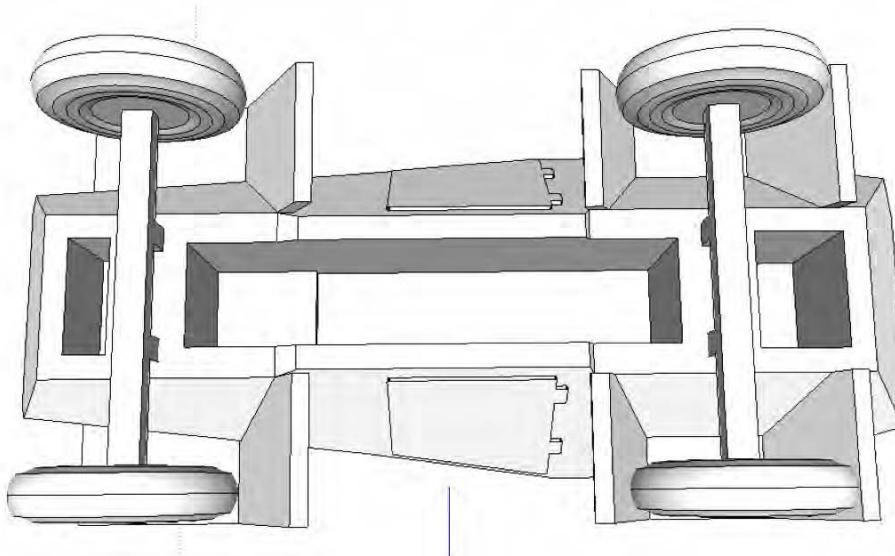

Figure 8–35. Extending the axle width to 2mm and hollowing out the model
The model now measures 1.7 inches (H) \times 3.0 inches (L) \times 1.5 inches (W). Try to see whether you can upload the model at this state. I uploaded the model successfully without any problems into Shapeways, but the model costs \$44.21. For a model this small, \$44.21 is really expensive. Also, there is one thing that must be fixed. The width of the axle isn't 2mm. This might break the axle during printing. Shapeways recommends that the minimum wall thickness of any surface be at least 2 mm. Extend the axle so it measures 2mm in width, and hollow out the insides of the model to reduce the volume and as a result the cost of the model, as shown in Figure 8–35.
After reuploading the model, you see that the model costs only \$39.59—a small savings (Figure 8–36a). You can further reduce the cost by scaling the model even smaller, but further alterations would need to be made to the model that could compromise the overall design and increase the design time. As a 3D designer, these are some of the challenges you will face. So, make sure to plan before starting your design. From this point on, the design is a personal preference, so I'll leave rest of the alterations to the model up to you. Figure 8–36b shows the model after 3D printing.